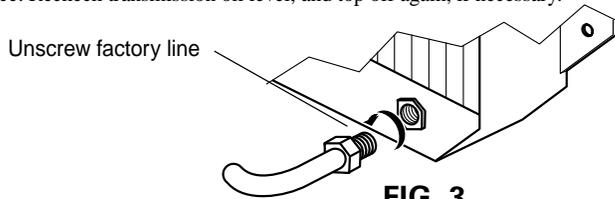

FIG. 3
3) Disconnect the transmission oil *return* line at the radiator. FIG. 3. The return line will be cooler to the touch than the supply line. Be ready to catch oil draining from the loose line and the radiator. Do NOT disturb the oil *supply* line to the radiator. You may shorten the factory return line to obtain the shortest distance between cooler and transmission, providing you have the tools to do so. When shortening the line for use with plain-end hose, you must flare the tube end and use a pipe clamp to secure the hose.
3) Disconnect both factory transmission oil lines from the radiator (FIG. 3), and screw hose adapter fittings (not incl.) that match your hose ends to factory lines. Be ready to catch oil draining from the loose lines and the radiator. Plug the radiator fittings if they leak. You will not be using them.